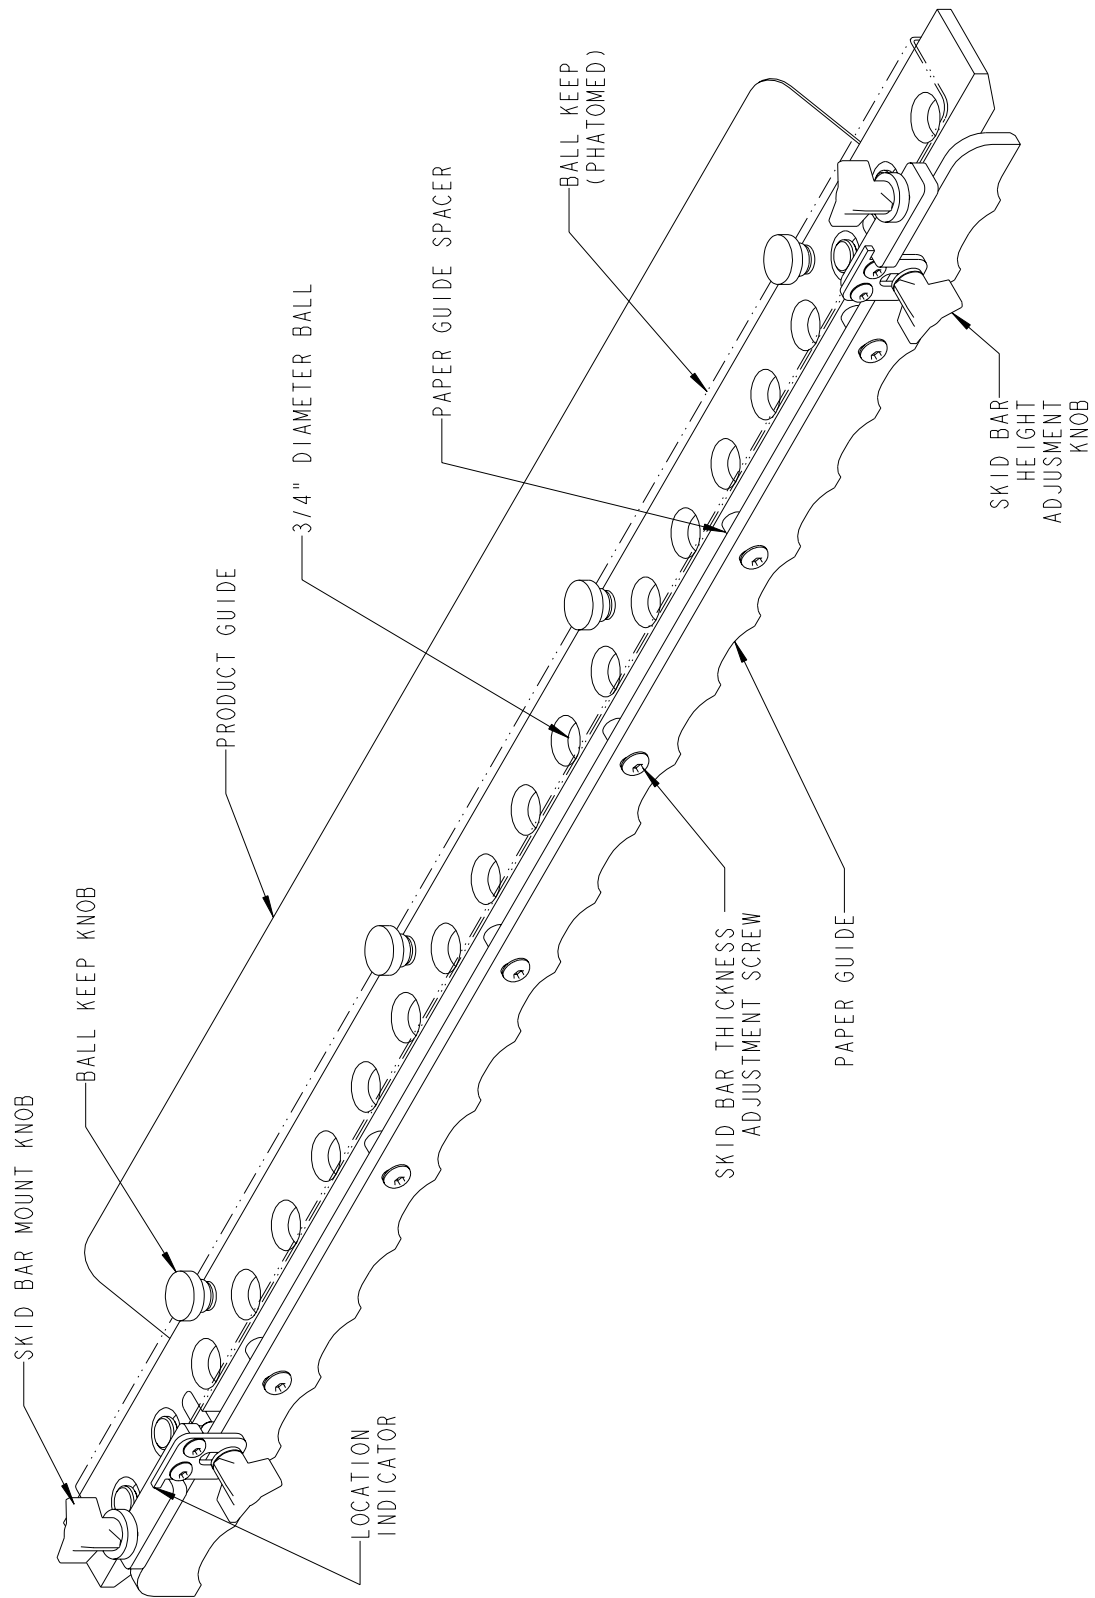

FIGURE 4.0
4.1.3 Ball Skid Bar Component Description (See Figure 4.0)